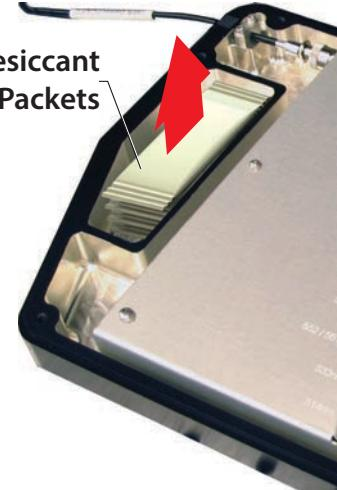

Figure 13-5. Discard Desiccant Packets
2. Discard the desiccant packets, as shown in Figure 13-5.